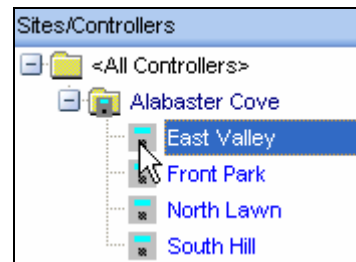

Figure 16.1.3B
2. Next select a controller by clicking on it to highlight (Figure 16.1.3B).